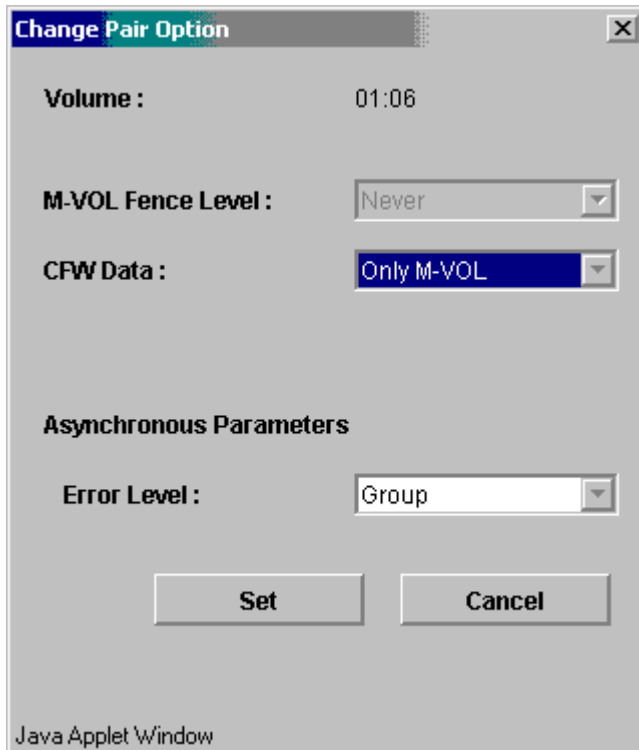

Figure 5.8 Change Pair Option Panel (Asynchronous)
The Change Pair Option panel (see Figure 5.8) allows you to change the pair options of existing TrueCopy - S/390® pairs. To open the Change Pair Option panel, select the **Pair Operations** tab, select the subsystem or the desired CU image, select the M-VOL(s) of the desired pair(s), right-click, and then select **Change Pair Option**.
4. Right-click, and select **Change Pair Option** to open the Change Pair Option panel (refer to Figure 5.8).